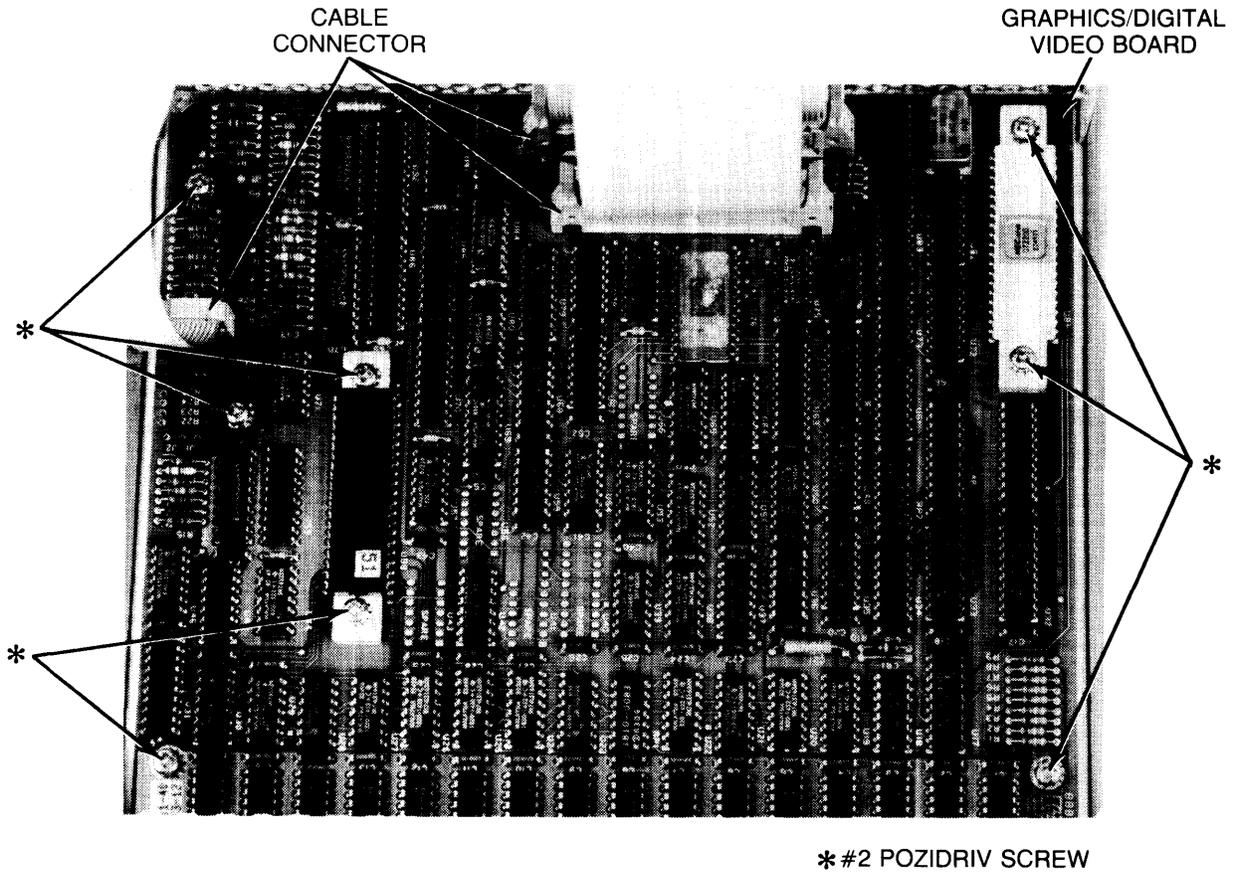

Figure 4-88. Removing Graphics/Digital Video Board
4. Disconnect three cable connectors from graphics/digital video board (Figure 4-88).
5. Remove eight #2 Pozidriv screws from graphics/digital video board (Figure 4-88).